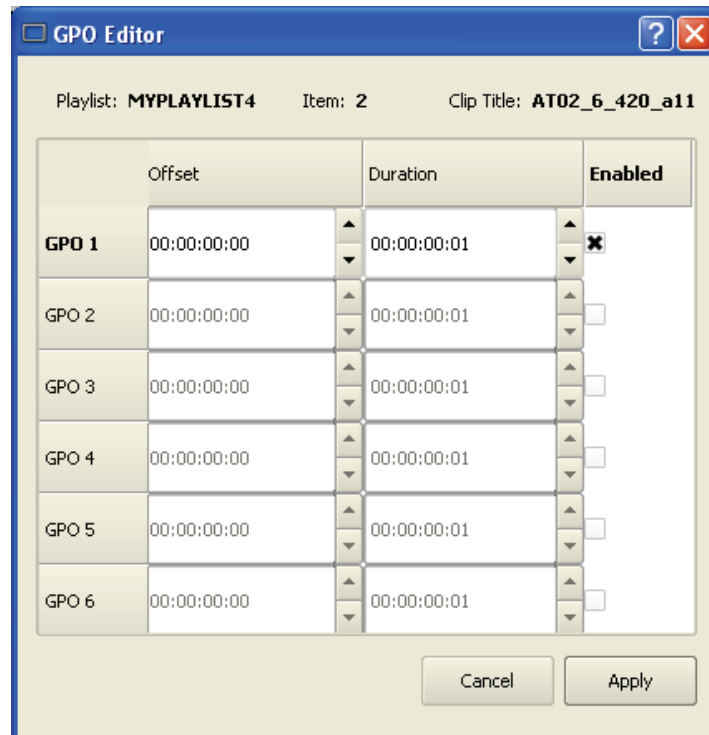

Figure 26 - GPO Editor
- C. Place the cursor over a Clip in a Playlist. Right click on the clip. Select **EDIT GPO**. The GPO Editor (Figure 26) appears.